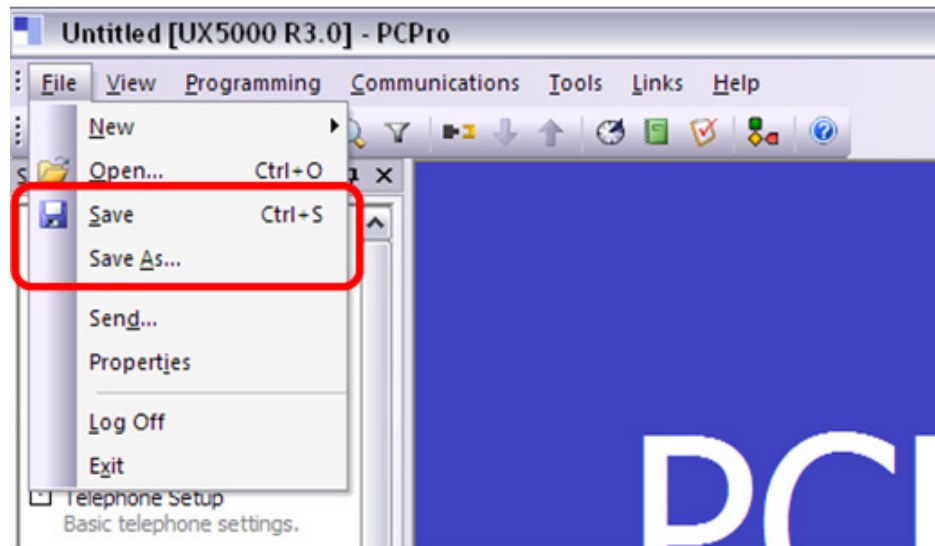

Figure I-3 Database Save
- After the download is complete, click **File > Save** or **Save As** to save the UX5000 PCPro database, Figure I-3 - Database Save.
- Launch SV8100 PCPro and click **File > Open** to open the UX5000 PCPro database saved in Figure I-3 - Database Save.